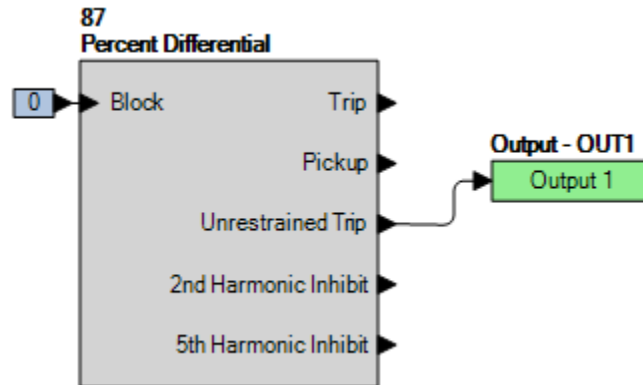

Figure 69-2. BESTlogicPlus Settings (87U)
Step 1: Use BESTCOMSP*lus* to verify the operational settings in Table 69-2 and logic in Figure 69-2. Reset all targets.
- Step 2: Prepare to monitor the unrestrained 87 element. Operation can be verified by monitoring OUT1 (see Figure 69-2).